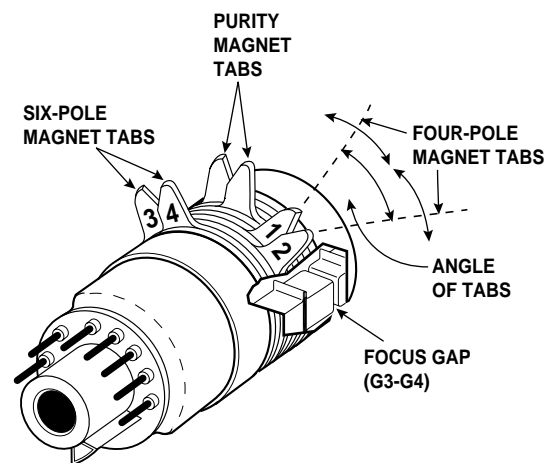

Figure 2. Purity and Convergence Magnets
- 2a. **Place the CPM on the tube neck aligning the center of the purity magnet tabs (2 pole) over center of Focus Gap (G3 & G4). See Figure 2.**